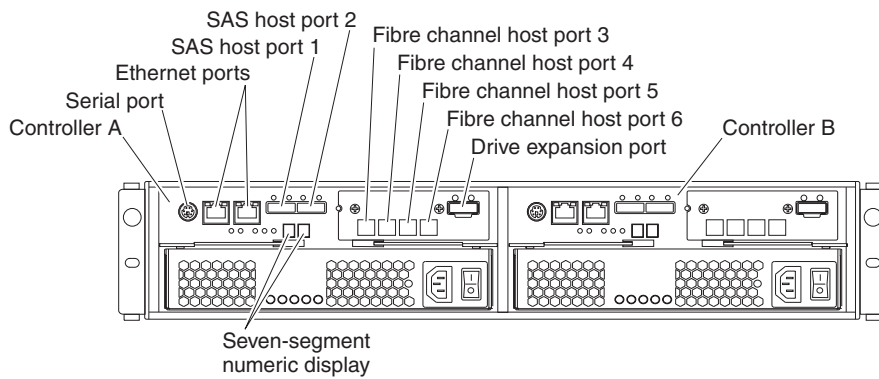

Figure 3-40. Location of host connectors on storage controllers
2. Connect the Fibre Channel cables to the SFP modules in the controller host ports and to either the SFP modules in the Fibre Channel switch or the optical interface connector on the host bus adapters. Figure 3-40 on page 3-34 shows the location on the controllers of the storage subsystem ports where the host-system cables connect.